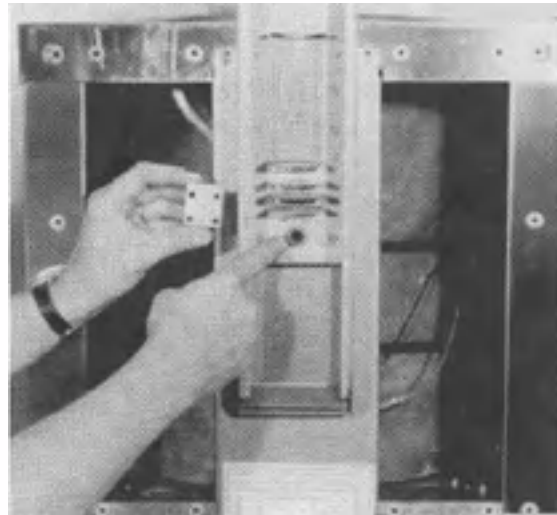

FIG.14
8. Remove vent tube O-ring and save for reuse (See Figure14).
9. Remove the four (4) screws securing vent assembly to rear of fryer and save for reuse. Leave vent block nut plate on vent tube for further use.